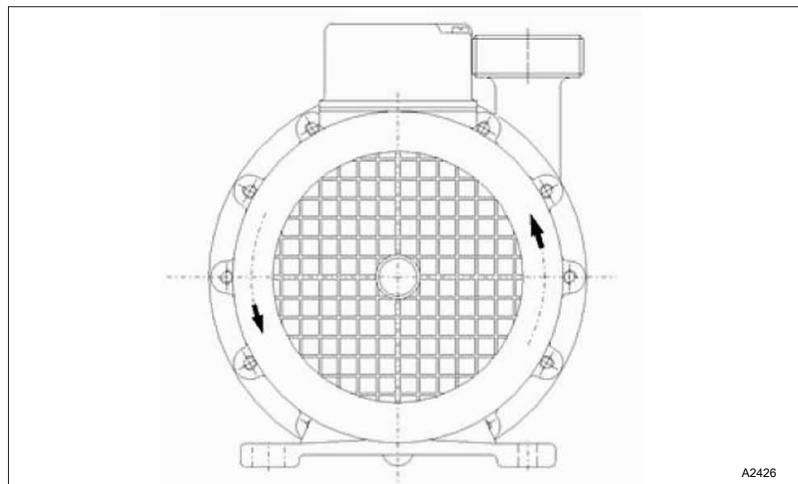

Fig. 8: Directional arrows = rotational direction of the motor
2. ➤ Pay attention to the directional arrows on the pump, see Fig. 8